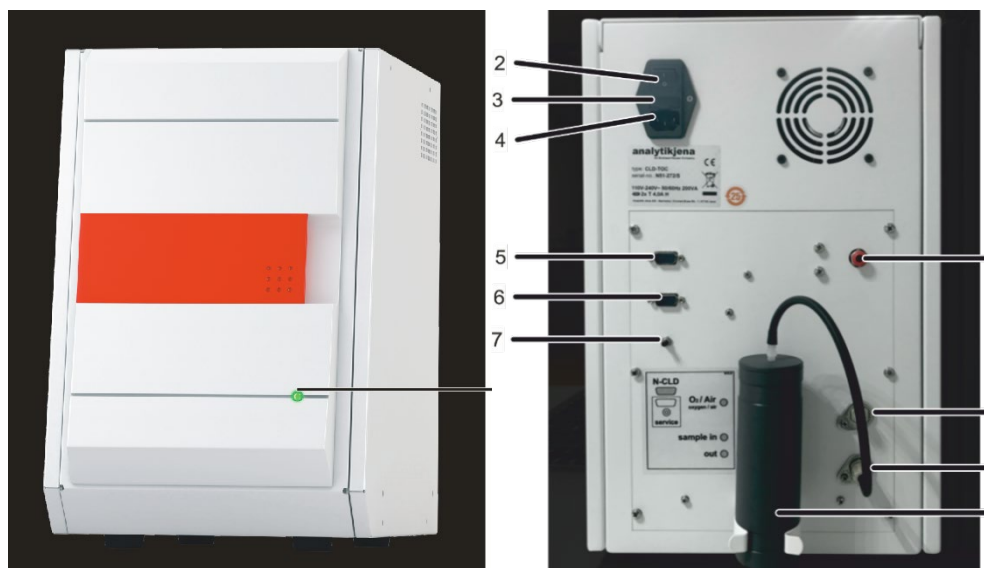

Fig. 41 CLD – display elements, mains connection and media connections
2. Connect the connection hose for carrier gas at the gas connection on the equipment backplate (6 in Fig. 41 p. 60).
- CLD-connection 7 in Fig. 41)